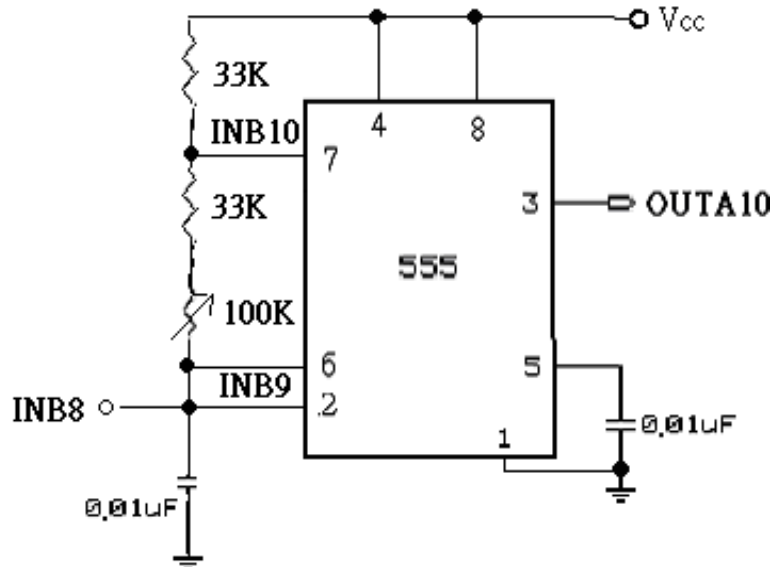

Figure 9-12
1. 555 timer circuit, as figure 9-12.